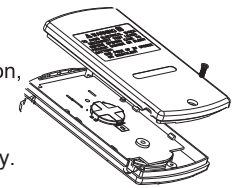

Figure 8
**VII. Battery Replacement (See Figure 8)**